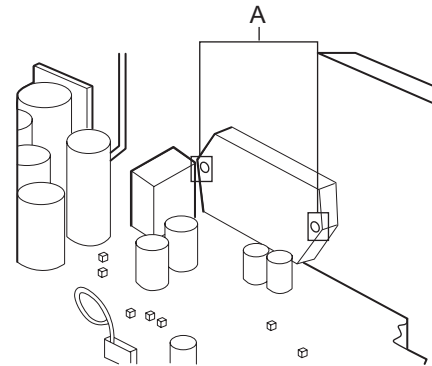

Fig.2
3.1.2 Replacing the power IC (See Fig.2)